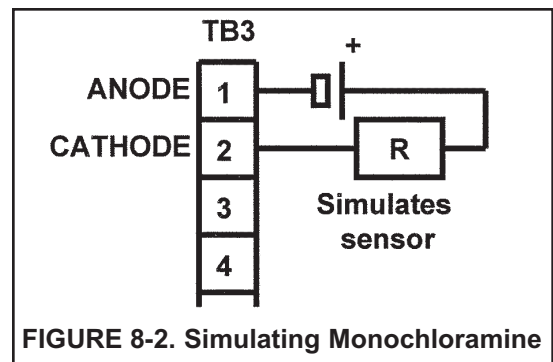

FIGURE 8-2. Simulating Monochloramine
- A. Disconnect the anode and cathode leads from terminals 1 and 2 on TB3 and connect a decade box and battery as shown in Figure 8-2. It is not necessary to disconnect the RTD leads.